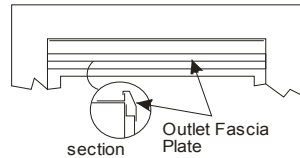

Figure 13
2. Hook the outlet fascia plate at the top of the glass frame (see **Figure 13**).